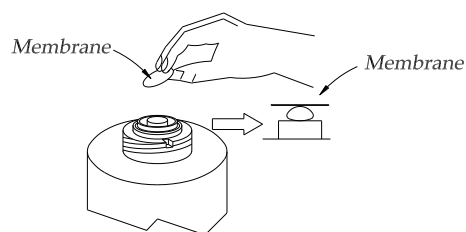
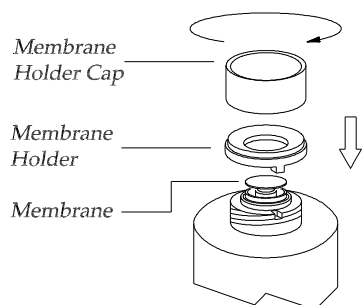

Fig. 4.2.9
Fig. 4.2.10
10. Place a new membrane onto the measuring electrode. Due to the hygroscopic behaviour of the electrolyte, the membrane will easily stay in place (fig. 4.2.9). Position the membrane holder and screw on the membrane holder cap, which should be firmly tightened (fig. 4.2.10).